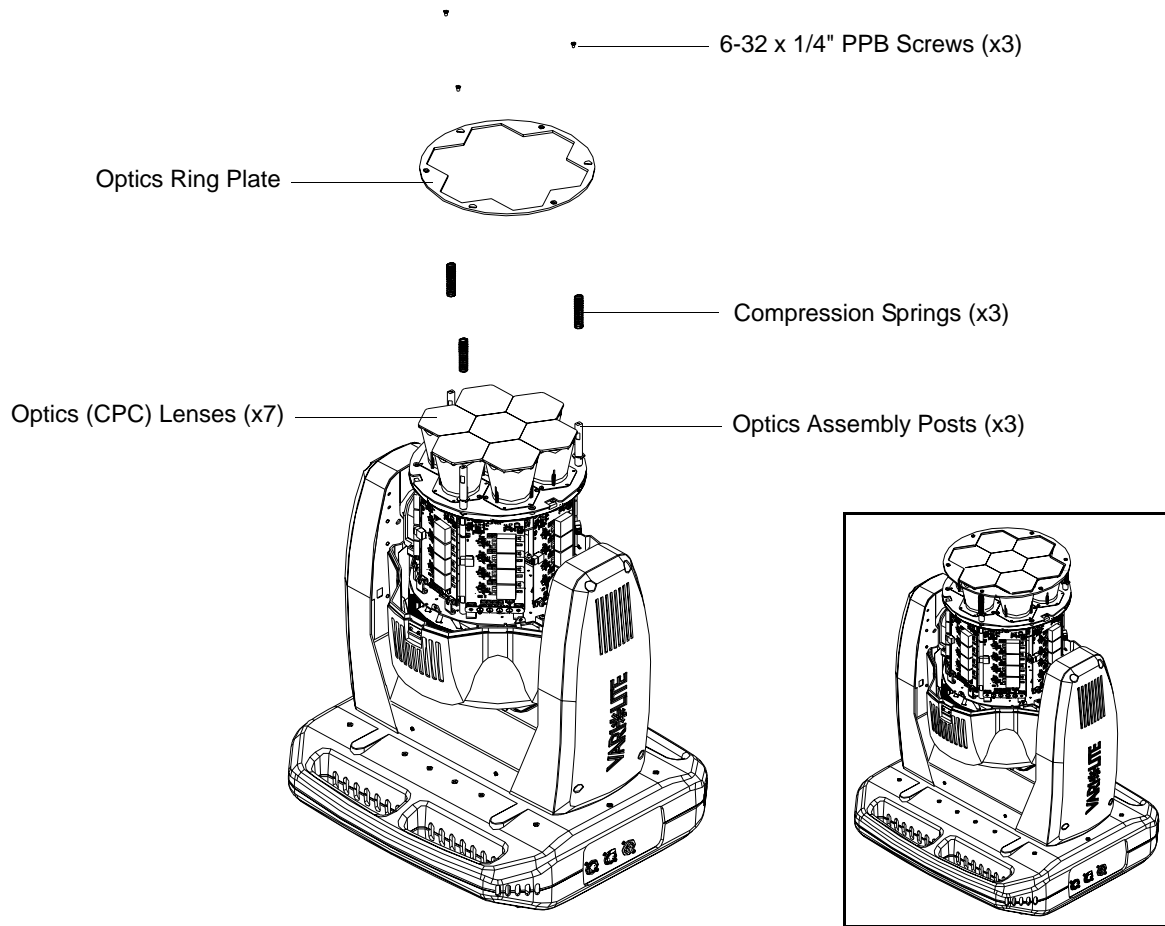

Figure A-9: Fixed Beam Application Assembly
- a. As shown in Figure A-9, slide compression springs over optics assembly posts.